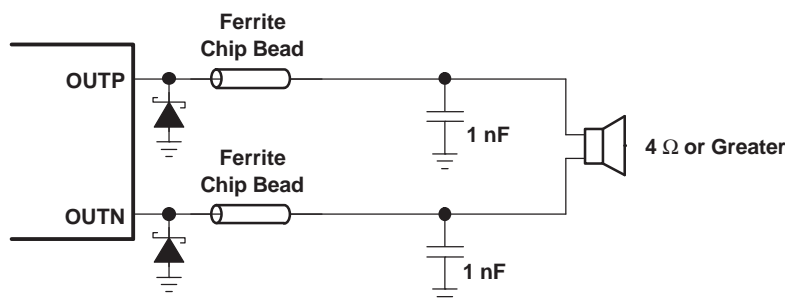
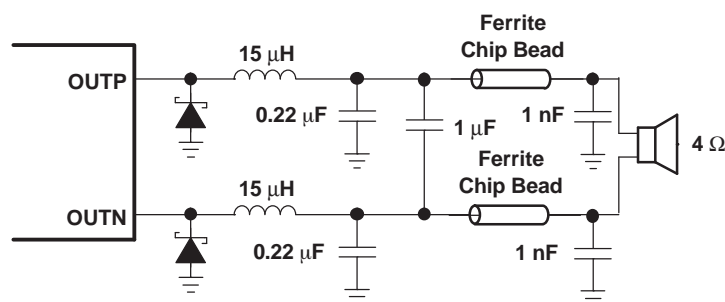
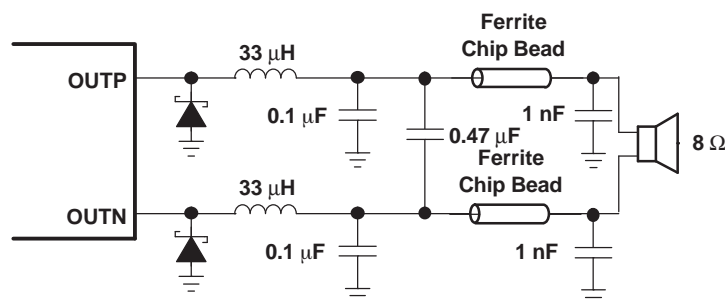

Figure 34. Typical Ferrite Chip Bead Filter (Chip Bead Example: Fair-Rite 2512067007Y3)
Figure 35. Typical LC Output Filter for 4- Ω Speaker, Cutoff Frequency of 27 kHz
Figure 36. Typical LC Output Filter for 8- Ω Speaker, Cutoff Frequency of 27 kHz
A ferrite bead filter (shown in Figure 34) should be used in order to pass FCC and/or CE radiated emissions specifications and if a frequency-sensitive circuit operating higher than 1 MHz is nearby. The ferrite filter reduces EMI around 1 MHz and higher (FCC and CE only test radiated emissions greater than 30 MHz). When selecting a ferrite bead, choose one with high impedance at high frequencies, but very low impedance at low frequencies.
Use an additional LC output filter if there are low frequency (<1 MHz) EMI sensitive circuits and/or there are long wires (greater than 11 inches) from the amplifier to the speaker, as shown in Figure 35 and Figure 36.
- Output filter—The ferrite filter (Figure 34) should be placed as close to the output terminals (pins 10, 11, 14, and 15) as possible for the best EMI performance. The LC filter (Figure 35 and Figure 36) should be placed close to the ferrite filter. The capacitors used in both the ferrite and LC filters should be grounded to power ground.